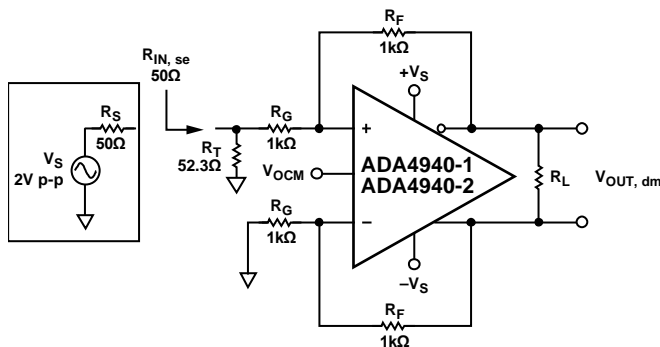

Figure 67. Adding Termination Resistor R_T
3. Figure 67 shows that the effective R_G in the upper feedback loop is now greater than the R_G in the lower loop due to the addition of the termination resistors. To compensate for the imbalance of the gain resistors, add a correction resistor (R_{TS}) in series with R_G in the lower loop. R_{TS} is the Thevenin equivalent of the source resistance, R_S , and the termination resistance, R_T , and is equal to $R_S || R_T$.